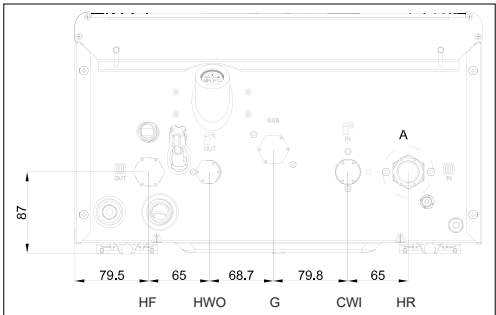

Figure 16. Water Connections
- ⚠ The union at the bottom of the pump (union in Figure 16-A detail) should be tightened with a maximum torque of 18 Nm if rubber gaskets are used, and with a maximum torque of 30 Nm if klingerit gaskets are used.